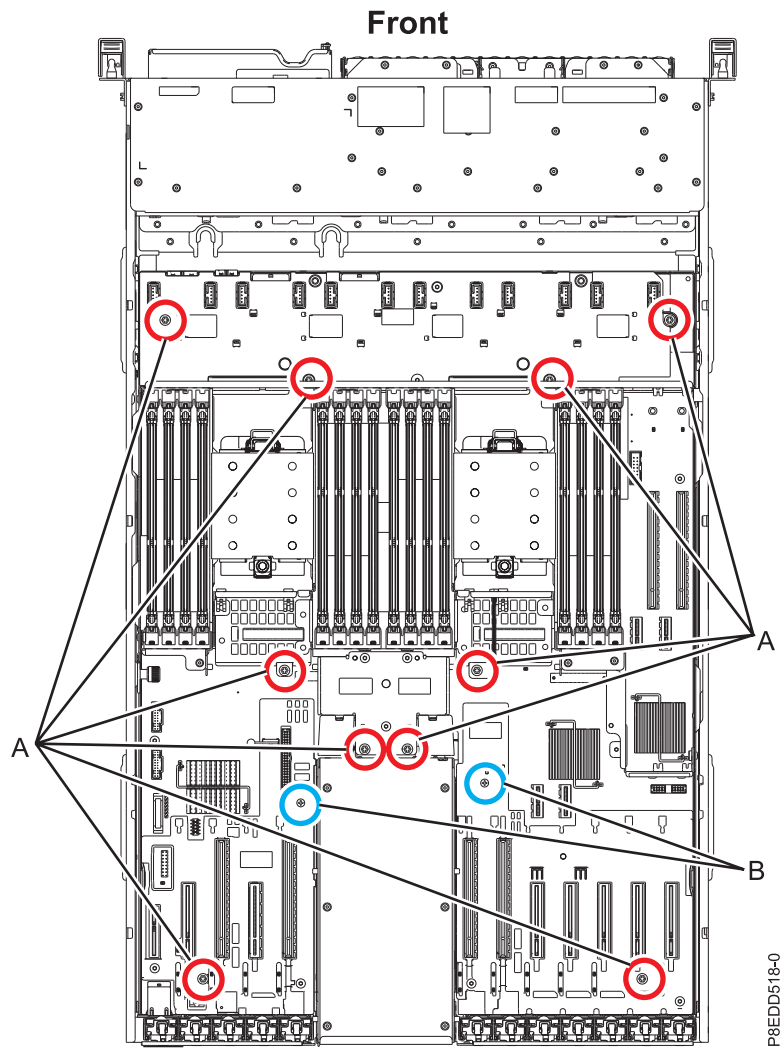

Figure 74. Location of the system backplane screws
- a. Using a Phillips screwdriver, unscrew and remove 10 black screws (**A**) that mount the system backplane to the chassis as shown in Figure 74 on page 75.
- b. Using a Phillips screwdriver, unscrew and remove two silver screws (**B**) as shown in Figure 74 on page 75.